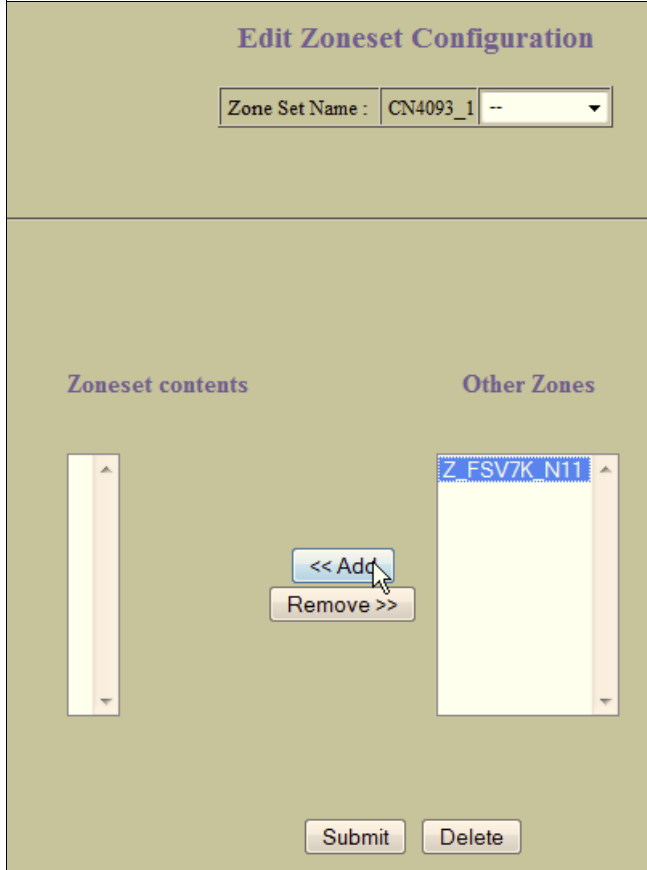

Figure 8-17 Add Zone to a Zoneset
16. A list of created zones is displayed. Highlight the zone you created and then click **Add** to add to the newly defined zoneset. See Figure 8-17.